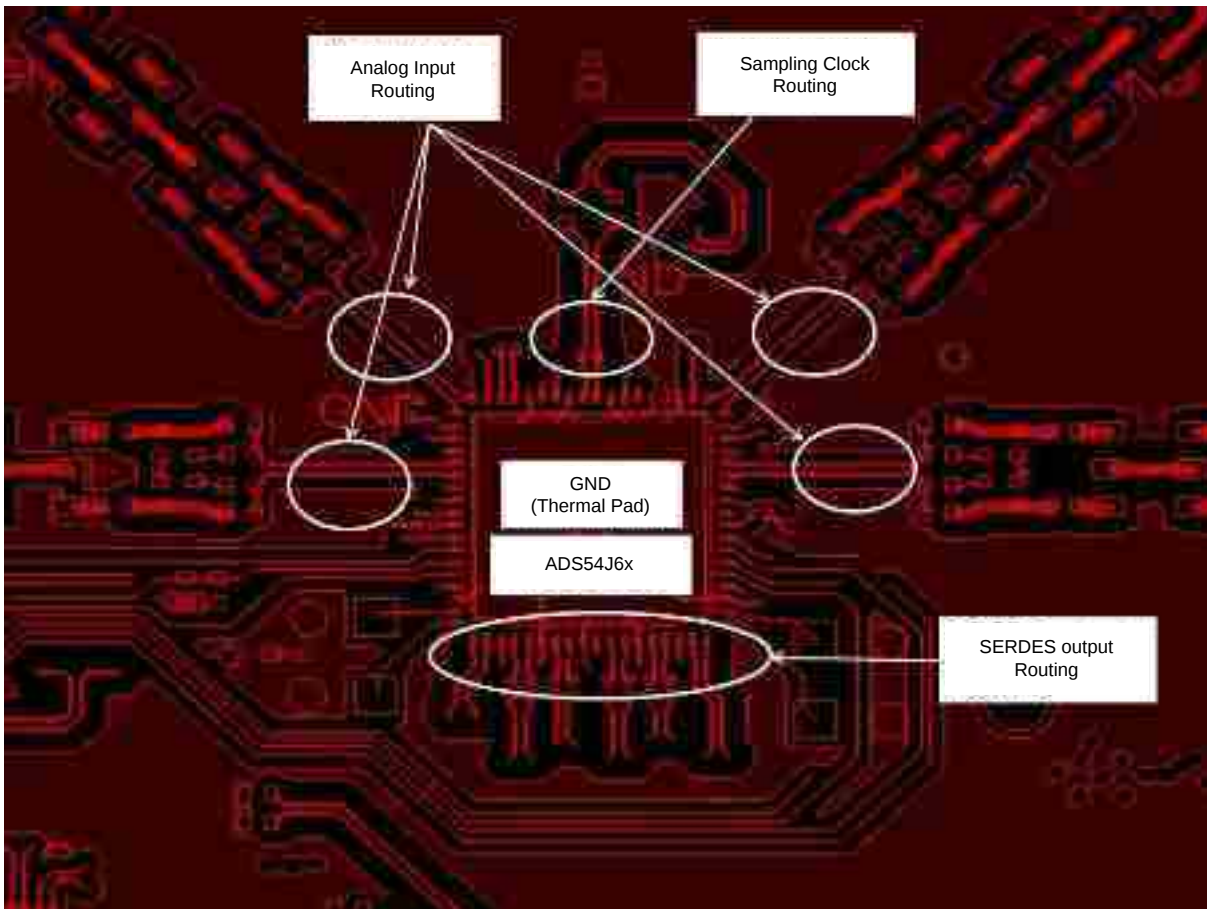

图 136. ADS54J64EVM Layout
The device evaluation module (EVM) layout can be used as a reference layout to obtain the best performance. 图 136 shows a layout diagram of the EVM top layer. A complete layout of the EVM is available at the ADS54J64 EVM folder. Some important points to remember during board layout are:
- Analog inputs are located on opposite sides of the device pinout to ensure minimum crosstalk on the package level. To minimize crosstalk onboard, the analog inputs must exit the pinout in opposite directions, as shown in the reference layout of 图 136 as much as possible.
- In the device pinout, the sampling clock is located on a side perpendicular to the analog inputs in order to minimize coupling between them. This configuration is also maintained on the reference layout of 图 136 as much as possible.